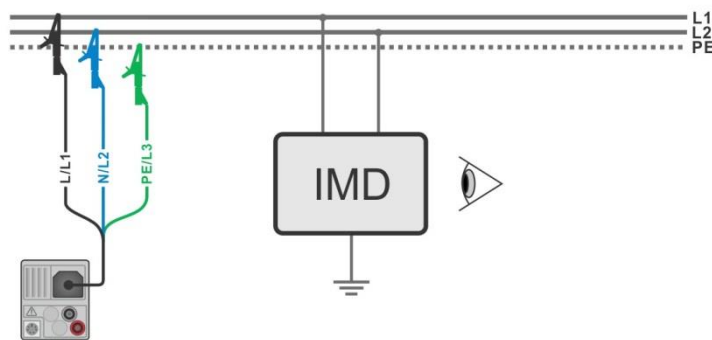

Figure 7.85: Connection with 3-wire test lead
- › Connect test leads to the object under test, see **Figure 7.85**.